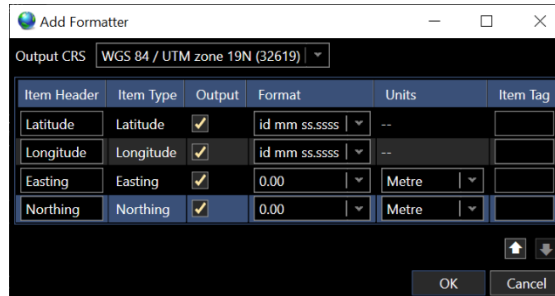

FIGURE 14-83 ADD FORMATTER DIALOG
- II. Adding a data source to the Selected Data Sources will open an **Add Formatter** dialog (see Figure 14-83) allowing the selection of the specific data to query in the case of data sources providing multiple values, e.g. Geographic2D, the text to appear in the query result column header, the units to use and the data format, e.g. number of decimal places, include units term, etc. (see section 14.7.4.1)